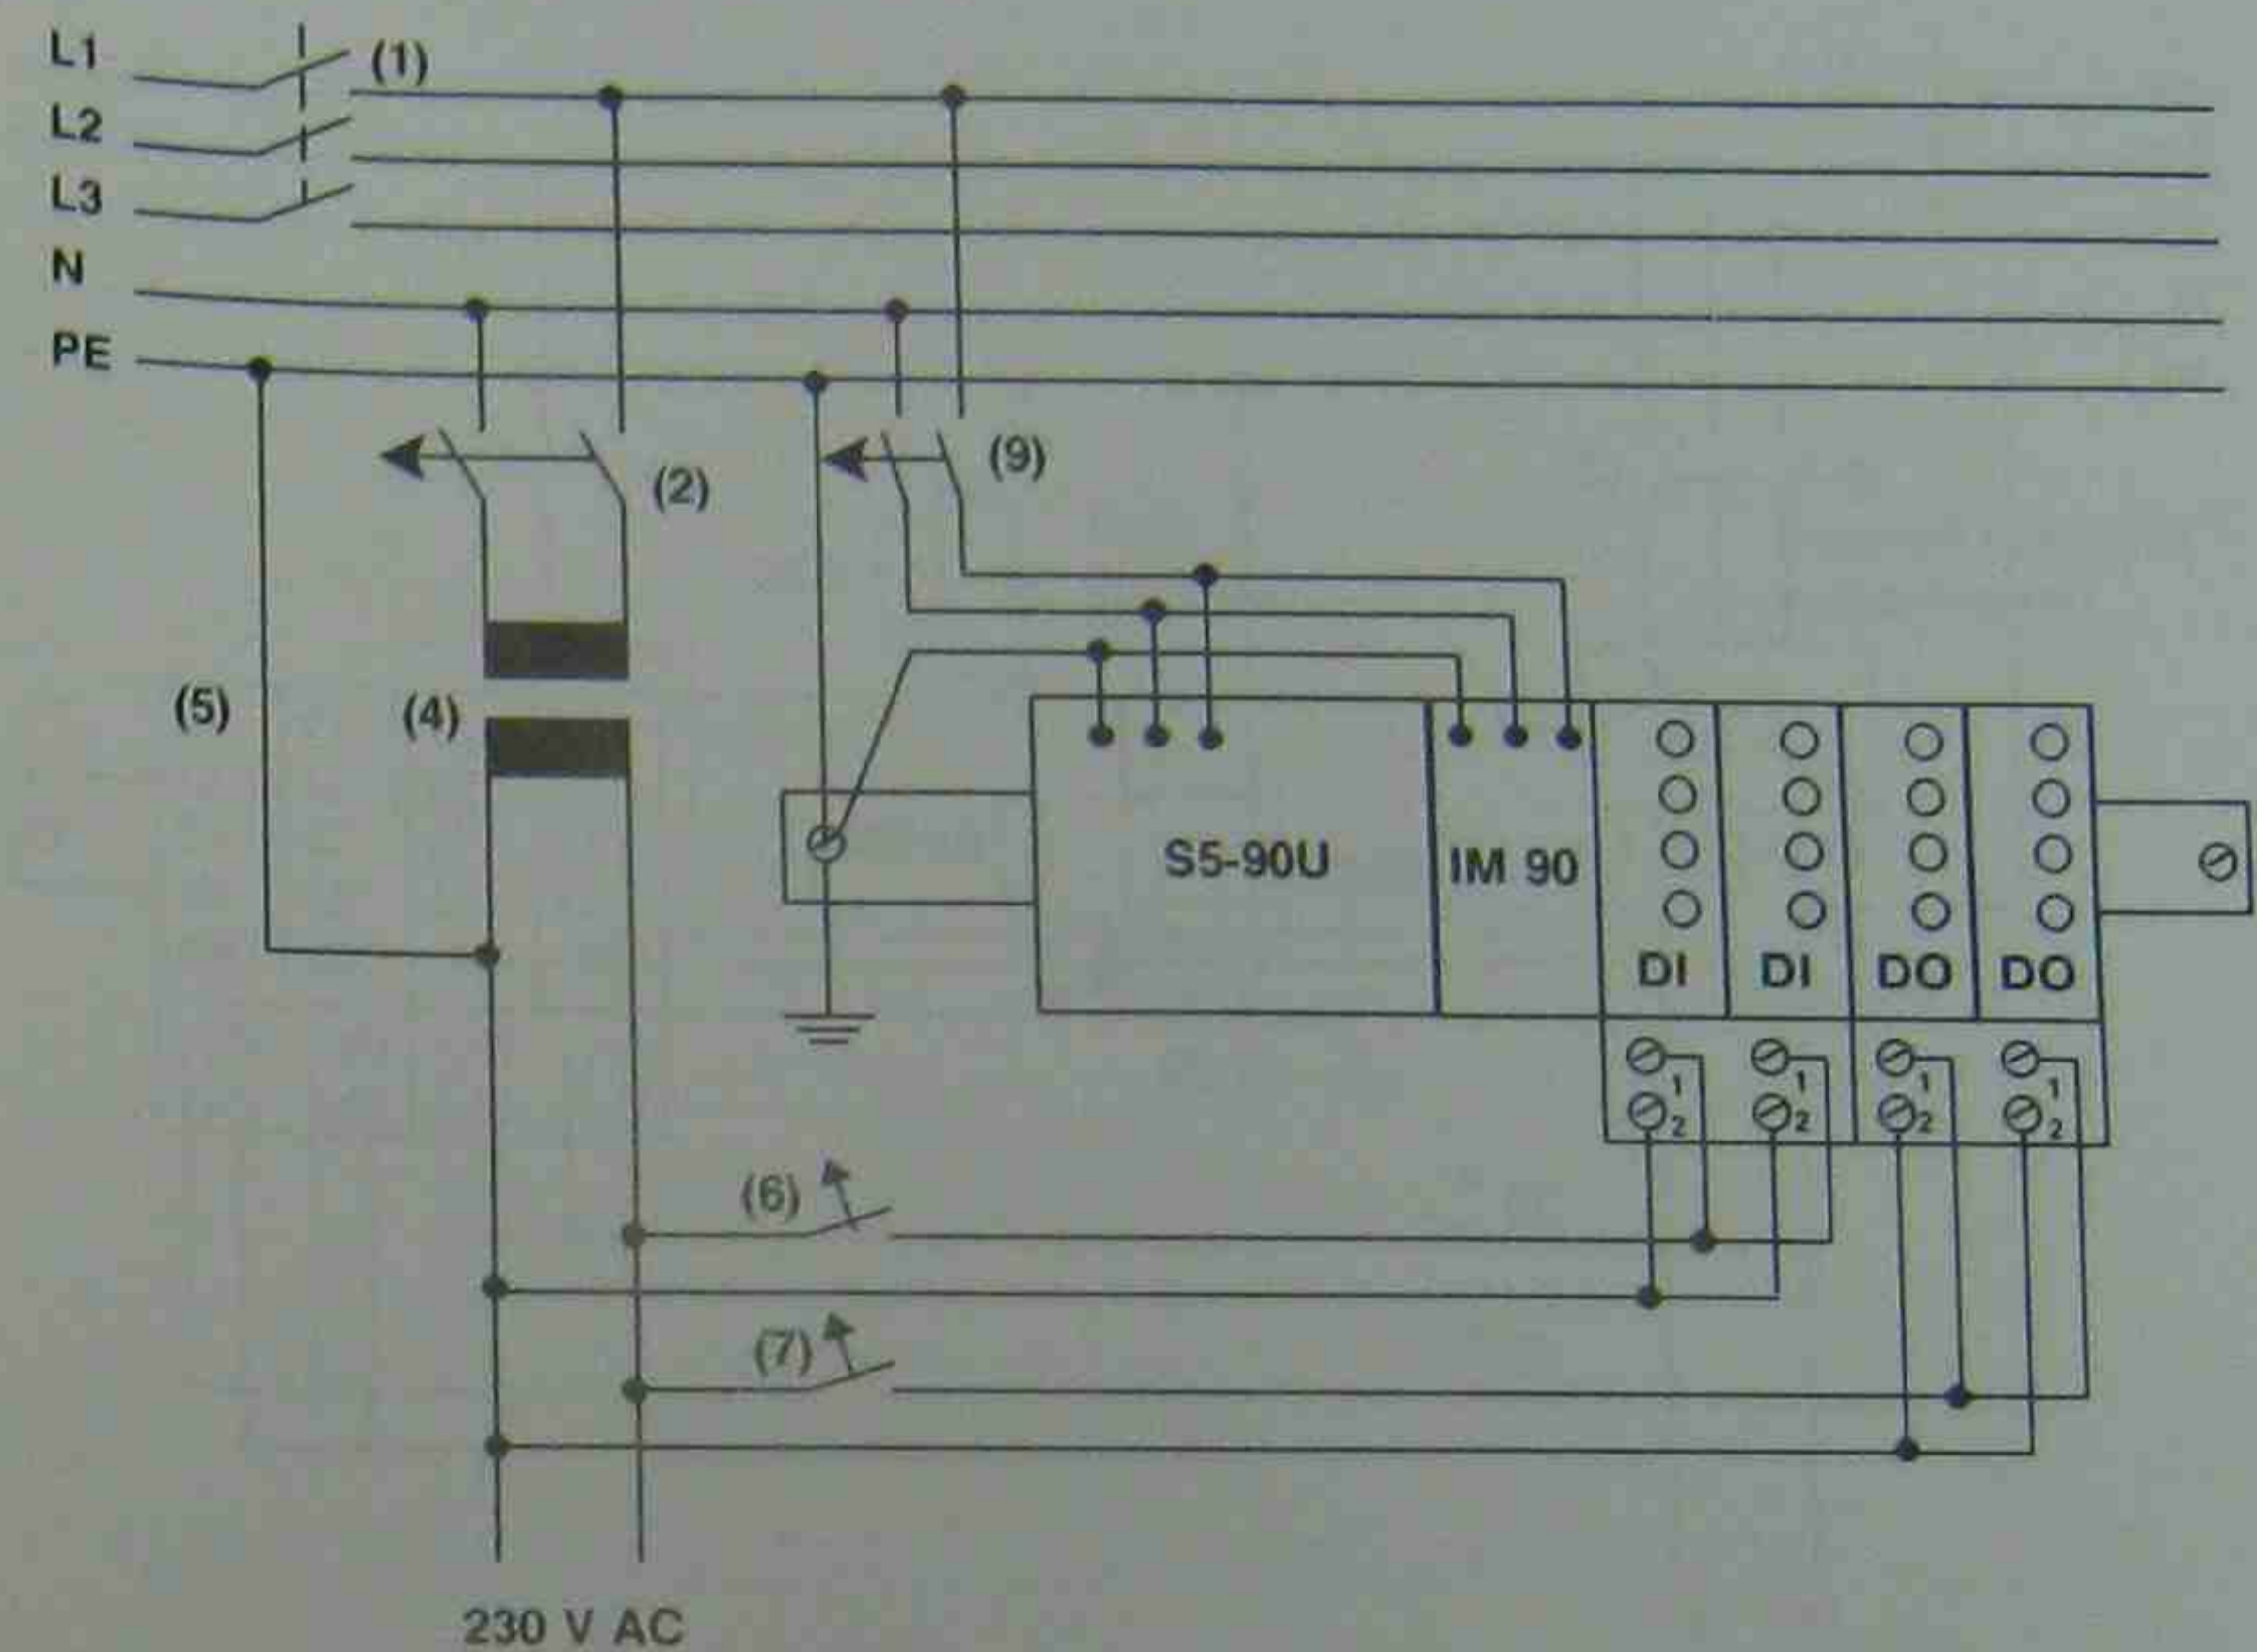

Figure 3-31. Configuration for the S5-90U with a Floating, External I/O and a 115-/220-V AC Power Supply
Figures 3-31, 3-32, and 3-33 display different configuration possibilities. Pay attention to the following points when you design your configuration. The numbers appearing in parentheses in the following points refer to the numbers in the three figures.
- You must have a main switch (1) in accordance with VDE 0100 for your PLC, the sensors, and the actuators.
- You do not need an additional fuse (2) to connect your PLC and the load circuit to power if your radial lines are a maximum of 3 meters (9.84 feet) long and are inherently earth-fault-proof and short-circuit-proof.
- You need a load power supply (3) for 24-V DC load circuits. You need a back-up capacitor (rating: 200 μ F per 1 A of load current) if you have non-stabilized load power supplies.
- If you have AC load circuits with more than five actuating coils, galvanic isolation via a transformer (4) is recommended.
- You should ground the load circuit at one end. Provide a removable connection (5) to the ground conductor on the load power supply (terminal M) or on the isolating transformer. You must provide earth-fault monitoring for any non-grounded load circuits.
- You need a power fuse (9) to protect against a short-circuit occurring in the power supply.
- You must have a low-resistance connection between the standard mounting rail and the cabinet's chassis ground (10) for grounded configuration.
- The IM 90 interface module has its own monitor for supply voltage. When it reports a power failure to the S5-90U, the controller goes into the "STOP" mode with the "NAU" error message (power failure). For this reason, it is recommended that you wire the S5-90U and the IM 90 interface module to the main power line in unison (see Figure 3-31).